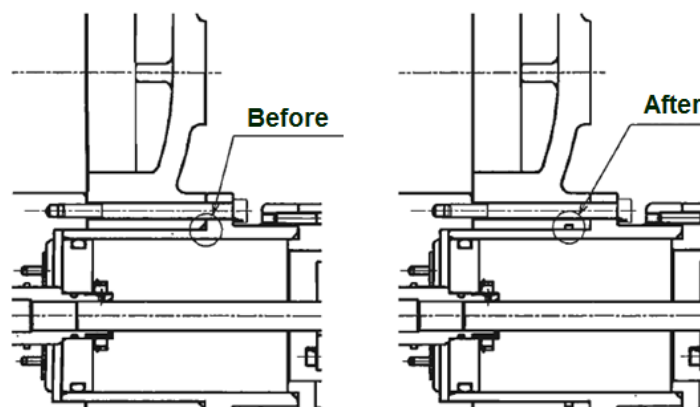

Figure 5-14 Before/After Design Modification
- c) Attach the V-ring set **[82]** applying sufficient oil to the unloader cylinder cover **[74]**. One of the V-rings in a set is made of rubber (dark color) to improve sealing performance. As shown in Figure 5-14, it is set at the second position viewed from the outer side of the machine. Make sure that the V protrusion of the V-ring faces the outer side and the lip faces the inner side of the machine.